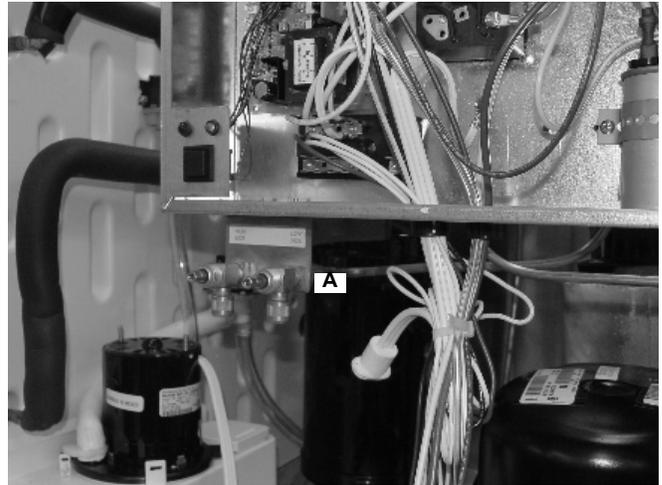

Figure 18.
13. Remove the 2 screws connecting the service valve bracket (A) to the control box (Figure 18).